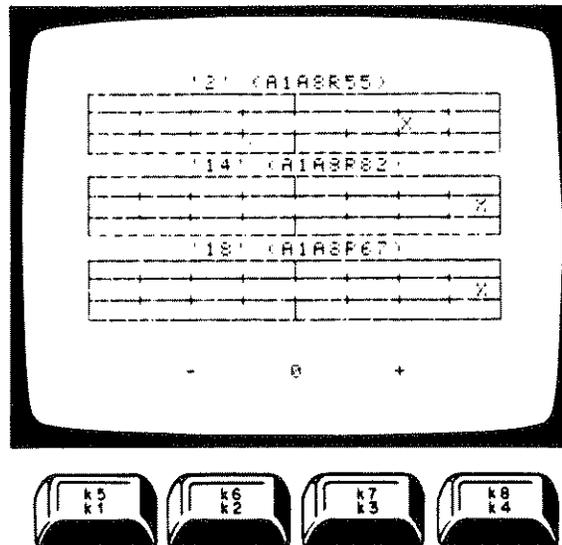

Figure 5-27. Flatness Adjustment Display
- d. Three axes representing the slope adjustment for each flatness region, are drawn on the controller screen (see Figure 5-27). The center of each axis represents zero error (the optimum slope for that region). The "X" is adjusted as close as possible for zero error.